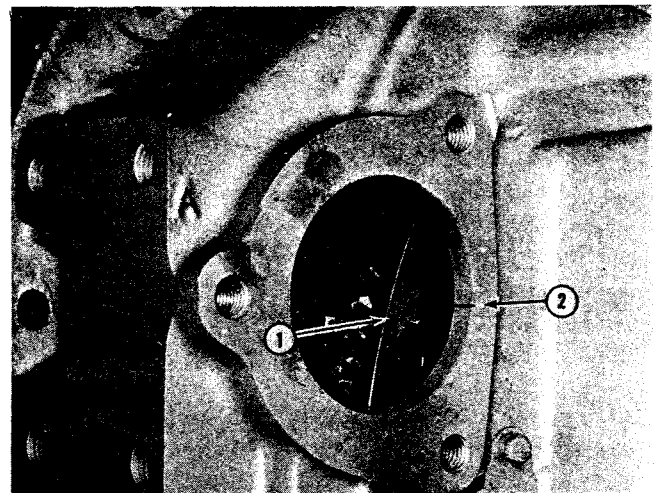

Fig. 2-60, (K21918). Valve set marks on right bank flywheel and housing — KT(A)-2300
2. When barring engine from right bank at flywheel housing "A" VS timing marks on flywheel (1, Fig. 2-60) must align with scribe mark (2) when viewed through opening marked "A" on flywheel housing.